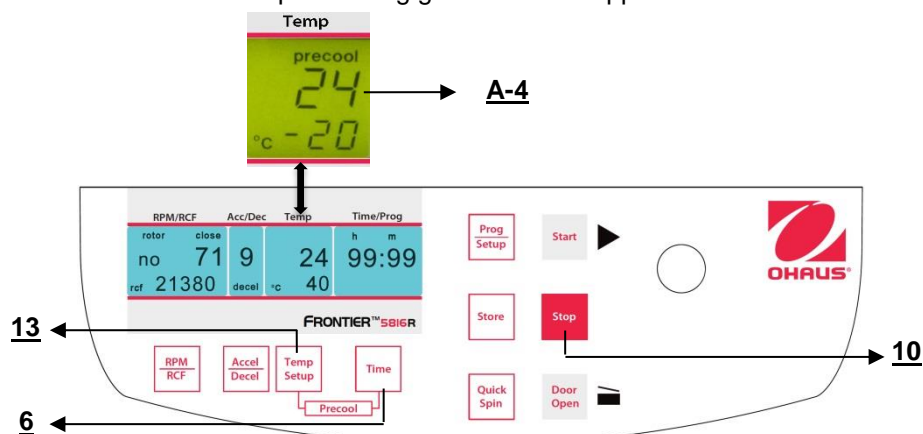

Figure. 20
If the samples are temperature-sensitive it is useful to pre-cool the centrifuge, the rotor and eventually the buckets to the required working temperature. Therefore, insert the desired rotor and pre-set the respective temperature. By simultaneous pressing the keys **"Temp/Setup"** (13) (refer to figure 20) and **"Time"** (6) you start the run. While running, the unit chooses automatically a rotational speed that is equivalent to 20 % of the permitted rotational speed of the respective rotor. After the pre-set temperature is reached you can leave the pre-cooling run with the **"Stop"** key (10).